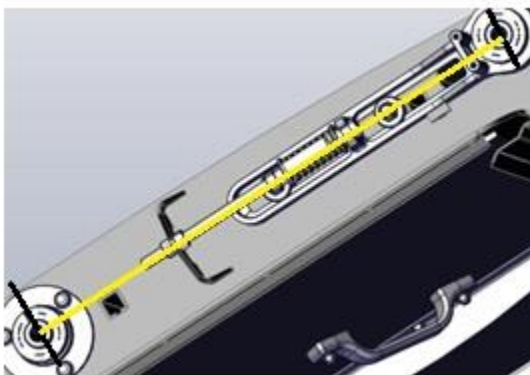

Figure 59
5. Measure the distance between the center of each roller on the center deck. Figure 59